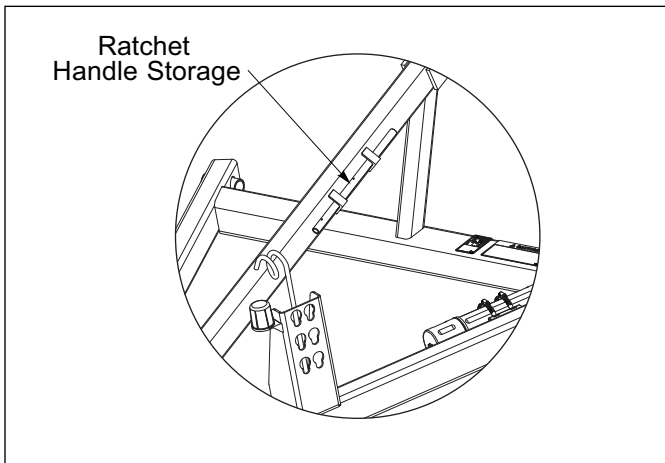

Figure 2-30: Handle Storage
3. Attach the Ratchet Jack between the Upper and Lower Brace Tubes Lugs with 1 x 2-1/2 Clevis Pins and secure with 3/16 x 2 Cotter Pins. Insert Handle into Ratchet Jack and insert Hair Pin Cotter into Handle. When Handle is not in use it is stored in the angles on the side of the Drawbar. **See Figure 2-30.**